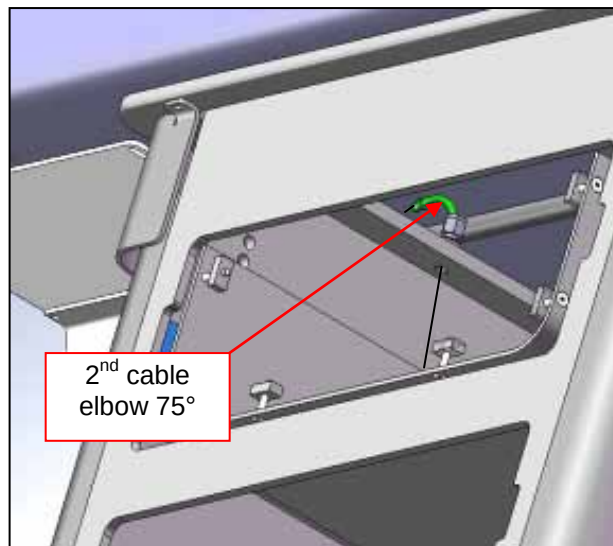

Figure 141
3. Remove the top drawer from LBS to expose the second 75° cable elbow (Figure 141).